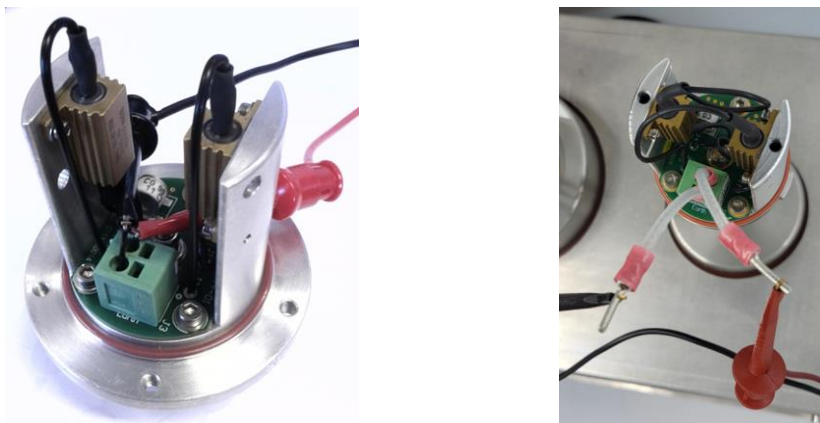

Figure 11-66: Bushing adaptor measurement – BA Only
1. Connect the clips to the Bushing Adaptor using the short cables in the adaptor's connector as shown in Figure 11-66.